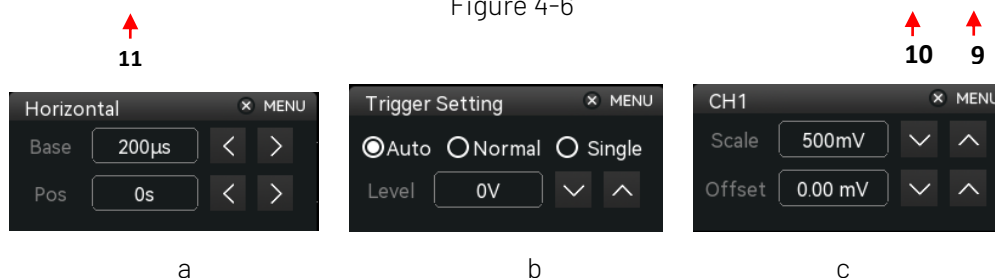

Figure 4-7
2. Time base scale: Indicates the amount of time represented by one grid, which can be adjusted by SCALE knob on the horizontal control area. Tap time base scale to pop out horizontal interface as show in Figure 4-7(a), time base scale can change by using numeric keypad, **<**, **>** and SCALE knob .
6. Horizontal displacement: Display the horizontal displacement value of waveform. Change this parameter by using POSITION knob on horizontal control area. Press POSITION knob on horizontal control area to make horizontal displacement value turn to 0. Tap time base scale to pop out horizontal interface as show in Figure 4-7(a), horizontal displacement value can change by using numeric keypad, **<**, **>** and POSITION knob.
- f. Tap trigger status area to pop out trigger setting interface as shown in Figure 4-7(b). Trigger level value and trigger coupling mode can change by using numeric keypad,  ,  and LEVEL knob.
- g. Tap vertical state area to pop out channel 1 interface as shown in Figure 4-7 (c) Volts/div scale, vertical displacement value can be changed by using numeric keypad,  ,  and vertical SCALE knob and vertical Position knob.